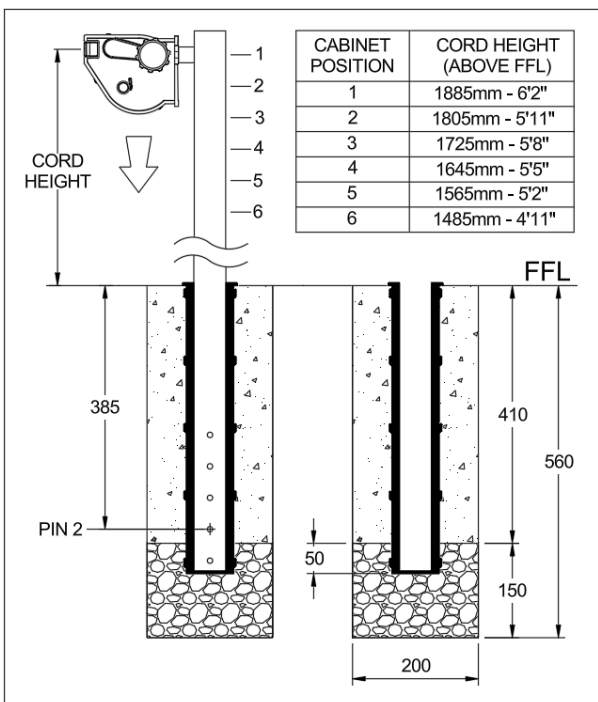

Fig. 5 Ground Socket Install (Removeable Post).
- Install the Ground Socket as per the below image (Fig. 5).
- Allow 24 hours for the concrete to set before installing the Retract Away cabinet at a position indicated in the table below (Fig 5). The cord should be approximately 50mm above the user's head.